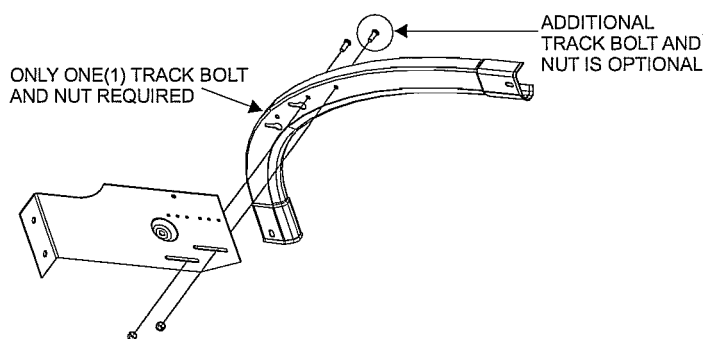

FIGURE 4
- Assemble the low headroom headplate to the transition curve using two track bolts and nuts from the inside of the track through the top round holes on the curve(loosely tighten).(See Figure 4)